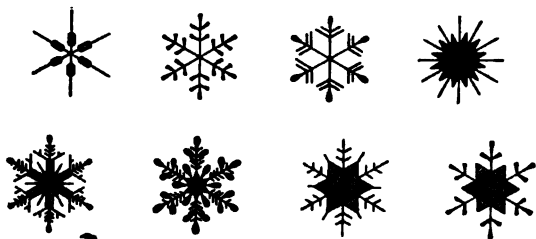

FIG. 151.—Ice crystals.
**183. Change of Volume During Solidification.**—The fact that ice floats and that it breaks bottles and pipes in which it freezes shows that water expands on freezing. How a substance may occupy more space when solid than when liquid may be understood when we learn that ice consists of masses of star-shaped crystals. (See Fig. 151.) The formation of these crystals must leave unoccupied spaces between them in the ice. When liquefied, however, no spaces are left and the substance occupies less volume.